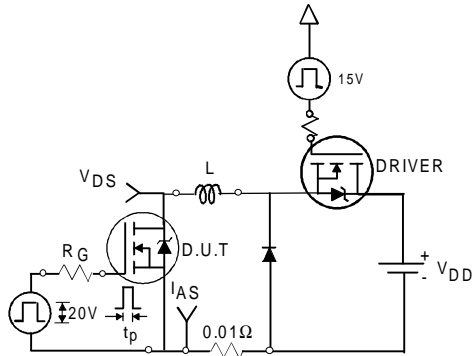

Fig 12a. Unclamped Inductive Test Circuit
- ④ Pulse width $\leq 400\mu s$; duty cycle $\leq 2\%$.
- ⑤ $C_{oss \text{ eff.}}$ is a fixed capacitance that gives the same charging time as C_{oss} while V_{DS} is rising from 0 to 80% V_{DSS} .
- ⑥ Calculated continuous current based on maximum allowable junction temperature. Package limitation current is 90A.
- ⑦ Limited by T_{Jmax} , see Fig.12a, 12b, 15, 16 for typical repetitive avalanche performance.
3. Equation below based on circuit and waveforms shown in Figures 12a, 12b.